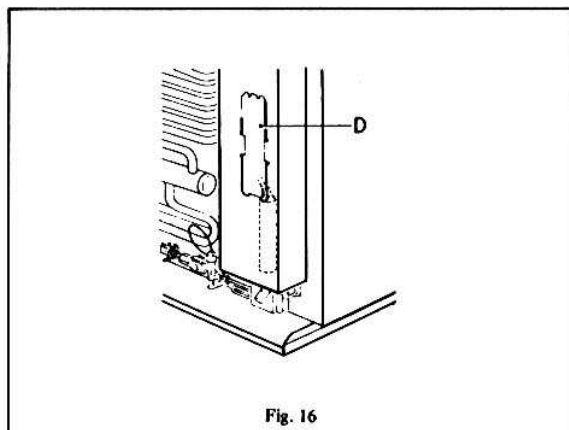

Fig. 16
1. To replace the heater, first check that the wall plug is disconnected, then remove the plate D, (Fig. 16).